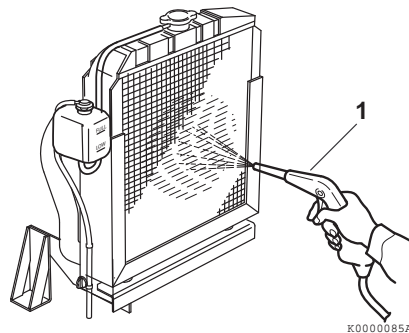

Figure 11
Note that a typical radiator is shown in **Figure 11** for illustrative purposes only.
- Blow off dirt and dust from fins and radiator with 28 PSI (0.19 MPa, 2 kgf/cm²) or less of compressed air (**Figure 11, (1)**). Be careful not to damage the fins with the compressed air.